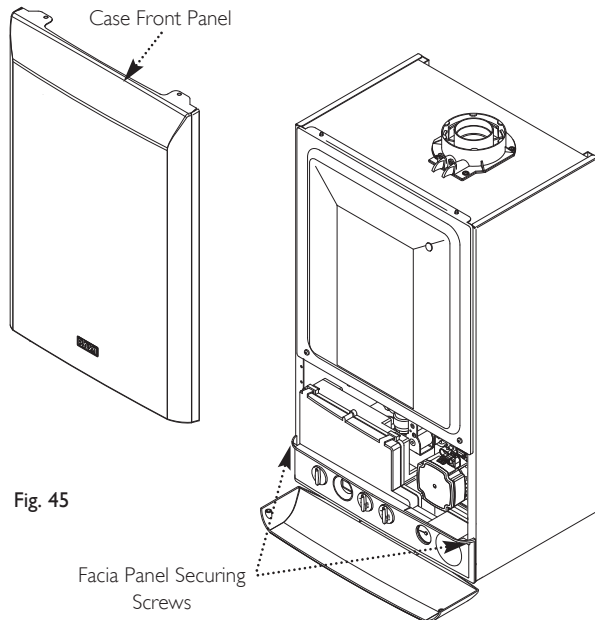

Fig. 45
3. Slacken the screws securing the facia panel. Lift the outercase panel so that its securing tabs are clear of the facia. Remove the panel, allowing the facia to hinge down (Fig. 45).